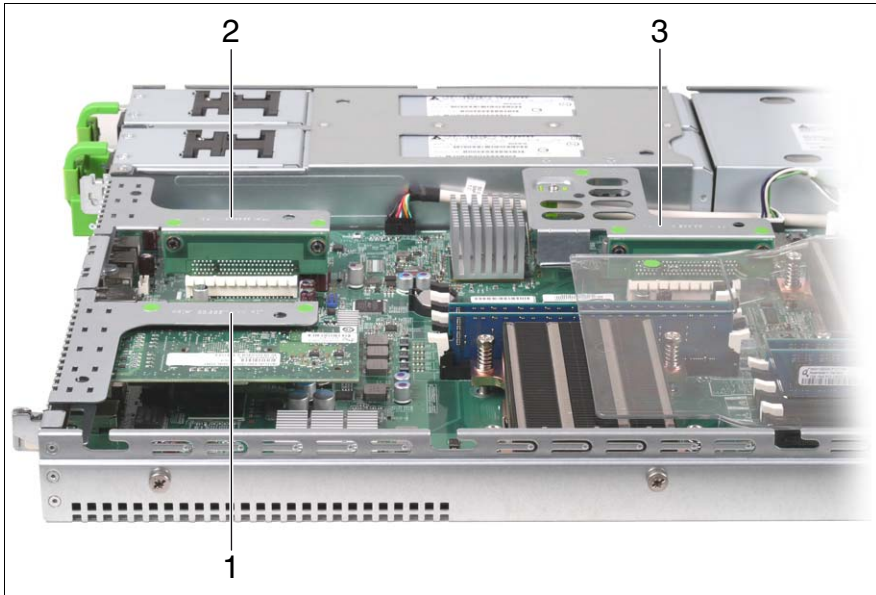

Figure 25: Position of riser card holders 1-3
The server has three slots for PCIe expansion cards. These are integrated in the system using riser cards (see positions (1) - (3) in figure 25). The individual slots can be equipped as follows:
A modular RAID controller can be installed in the server as an option. Riser card holder #3 (see figure 25 on page 48) is intended solely for this purpose.